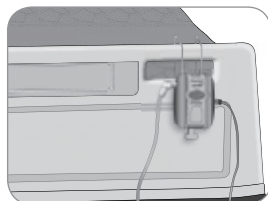

Fig. 13
4. Pull bracket wire away from alarm to create an opening wide enough to fit the head or footboard. Slide bracket onto bed and push down to ensure a snug fit (fig. 13). Make sure indicator lights are in clear view of staff.